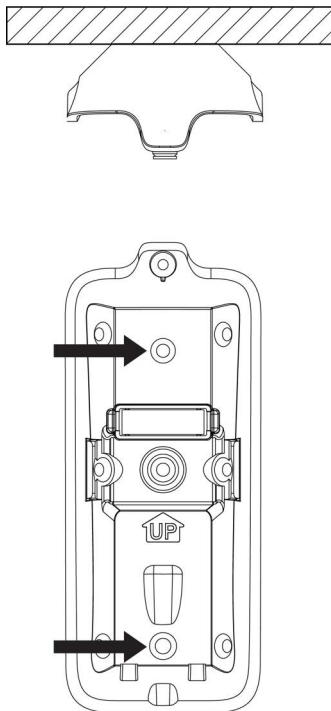

Figure 4 Wall mount configuration
- To mount on the wall, see Figure 4.